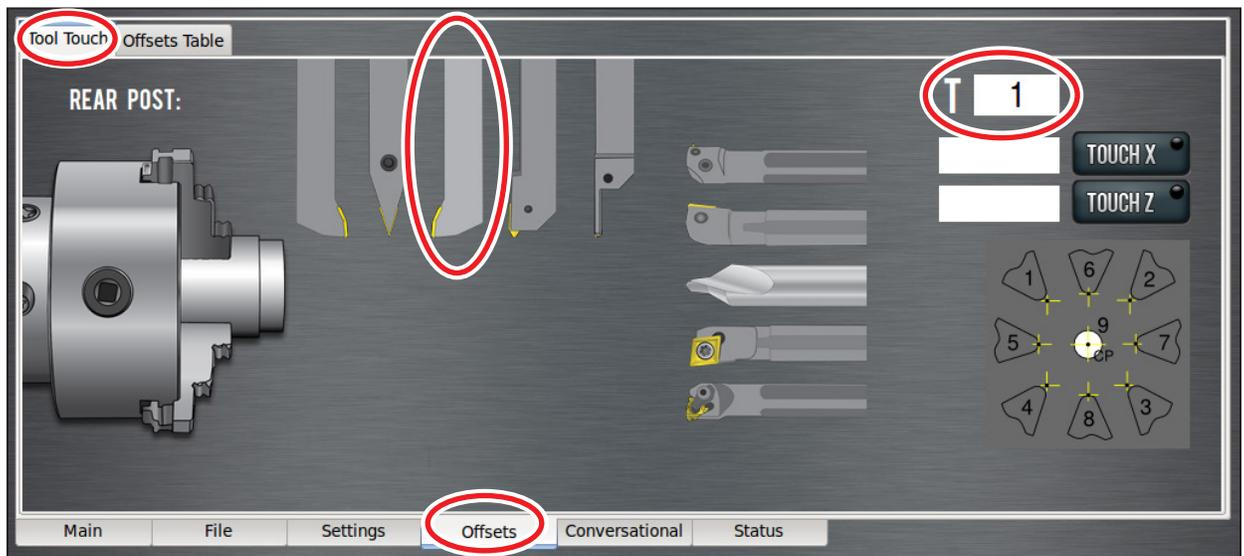

Figure 4.13
2. Select tool 1 in PathPilot interface – either click *Tool Touch* tab on the *Offsets* screen and type 1 in the tool T DRO (see **Figure 4.13**), or type T01 in the MDI line; click *Enter*.
3. On the *Tool Touch* tab on the *Offsets* screen, select right-handed turning tool (see **Figure 4.13**).
**NOTE:** If the wrong tool type is selected, click *Reset Tool* to reset the tool type (see **Figure 4.8**) and return to the tool selection screen (see **Figure 4.13**).